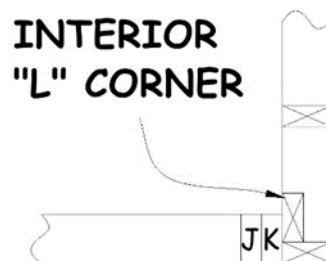

Figure 3-10. Interior L-Corner Configuration.
5. At corners and intersections, pay attention to whether a door will be built at that location. If so, make the room wall long and the door wall short, not the other way around. Include an "L-Corner" at the door end of the room wall and lay out the door plates so that the KJ pair abuts the L-Corner (see Figure 3-10). This allows for easy nailing through the "L" into the King stud. This configuration also provides a stronger corner that does not depend on nailing one stud into the edge of another stud. In addition, nailing the end of the long wall to the floor provides a stronger anchor than does toenailing the KJ pair to the floor.
2. Recheck wall intersections to determine which wall end should abut the side of the other wall (which wall will be the “long” wall and which will be the “short” wall). This may be dictated by an adjoining door. (See Section 3.5.5 and Figure 3-10 above.)
- c. Where a door will be attached at the end of a bathroom or bedroom wall, mark the end of the wall for a 2x4 L-corner oriented to allow nailing through the L-corner into the King stud of the door. (Similar to the 2x6 L-corners used in the exterior walls). See Figure 3-10.
- a. The short wall next to the tub/shower will typically be 36" long. As usual, layout studs on 24" centers starting at the intersecting wall. At the opposite end, layout a 2x4-2x6 L-corner similar to that shown in Figure 3-10, with the 2x6 base of the L on the surface facing the tub. This will provide vertical blocking to which the shower flange can be attached, 31¹/₂" from the wall.